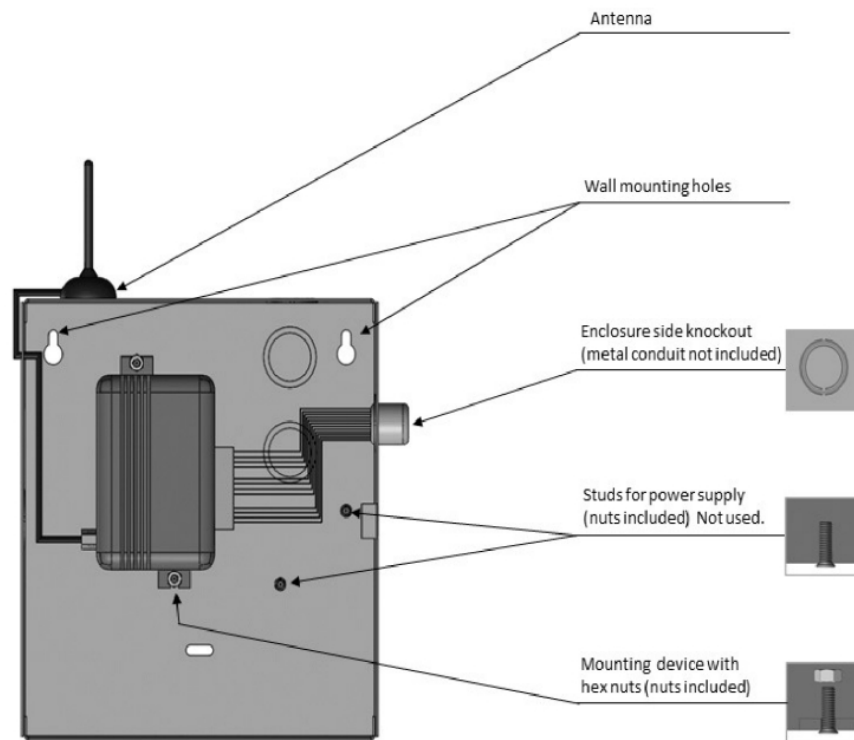

Figure 1: Mounting the Communicator
5. If using the HW-AV-ENC, mount the enclosure onto the two mounting holes as in Figure 1 and secure it with the hardware supplied with the enclosure.